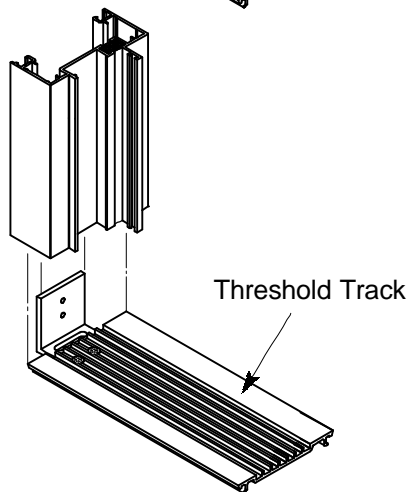

Fig.3.8.15
- Slide the outerframe goal post down over the secured brackets. Drill $\text{Ø}3.80$ holes thro the jamb using the bracket holes as guides, fix thro from the inside of the jamb using No.6 x 3/8" Pan Hd Pozi screws (ST638PPSS). Fig.3.8.15 & 16.
- Fig. 3.8.15 shows a general guide to key dimensions for setting up the flush bolt. Allowances should be made for variation of some components when installing, i.e. 6mm thread length into end guide.